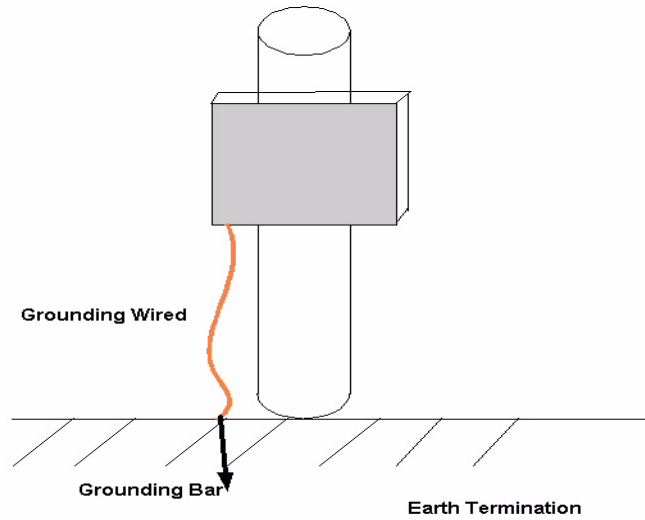
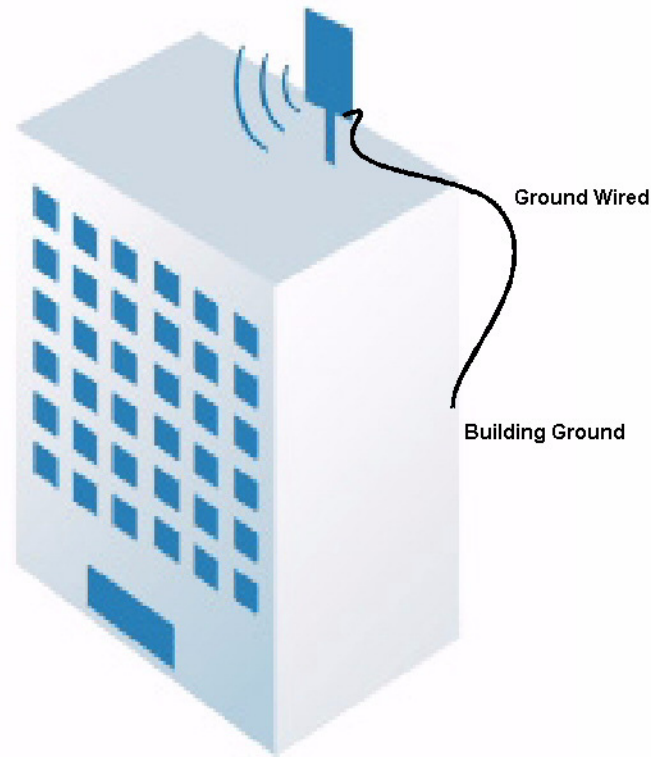

Figure 2-10 **Earth Grounding**
Figure 2-11 Building Grounding
5. Route the other end of the grounding cable to a good ground (earth or building) Connection. See Figure 2-10. Connect the AWG #6 grounding wire and route to the central building ground, as shown in Figure 2-11